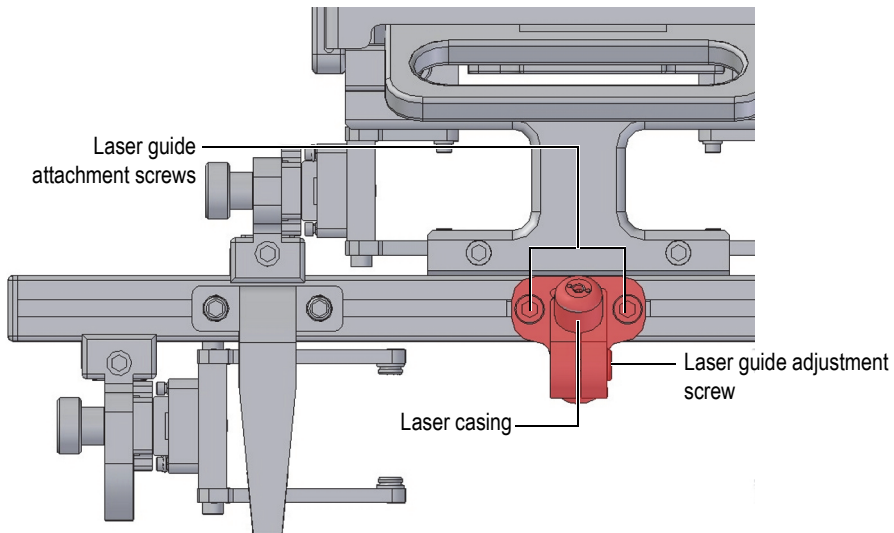

Figure 2-7 WeldROVER—laser guide position adjustment
1. Loosen the laser guide attachment screws (Figure 2-7 on page 40).
2. Fine-tune the adjustment by manually rotating the laser casing in the holder (Figure 2-7 on page 40).